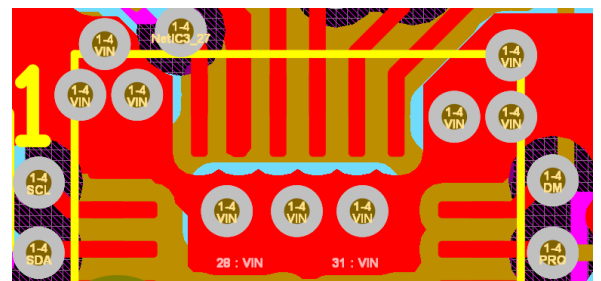

Figure 3: VIN part of NU1020 EVM
- The full-bridge power stage is integrated in NU1020, so thermal Vias are needed to provide a thermal path for the NU1020. Refer to figure 3.